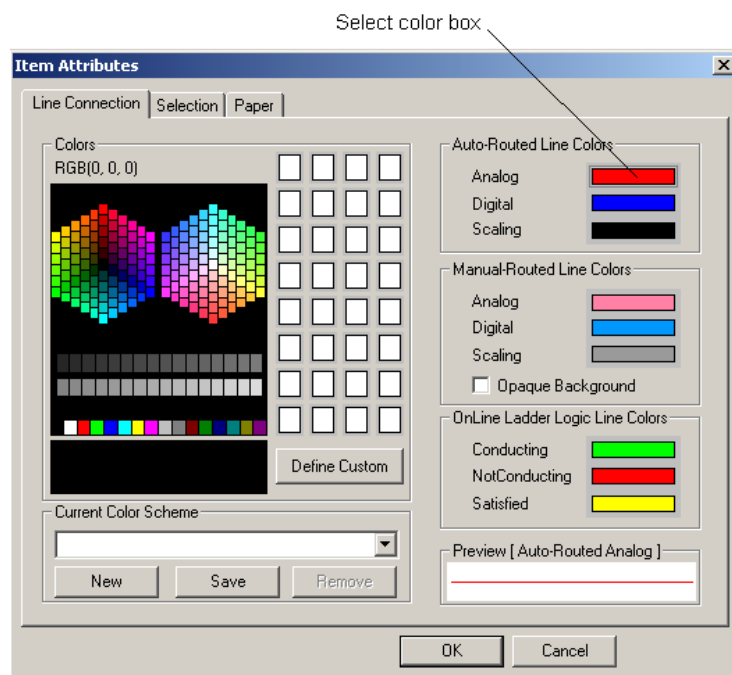

Figure 6-17 Line Connection tab - Item Attributes
1. Click the **Line Connection** tab, if not already selected. See Figure 6-17.